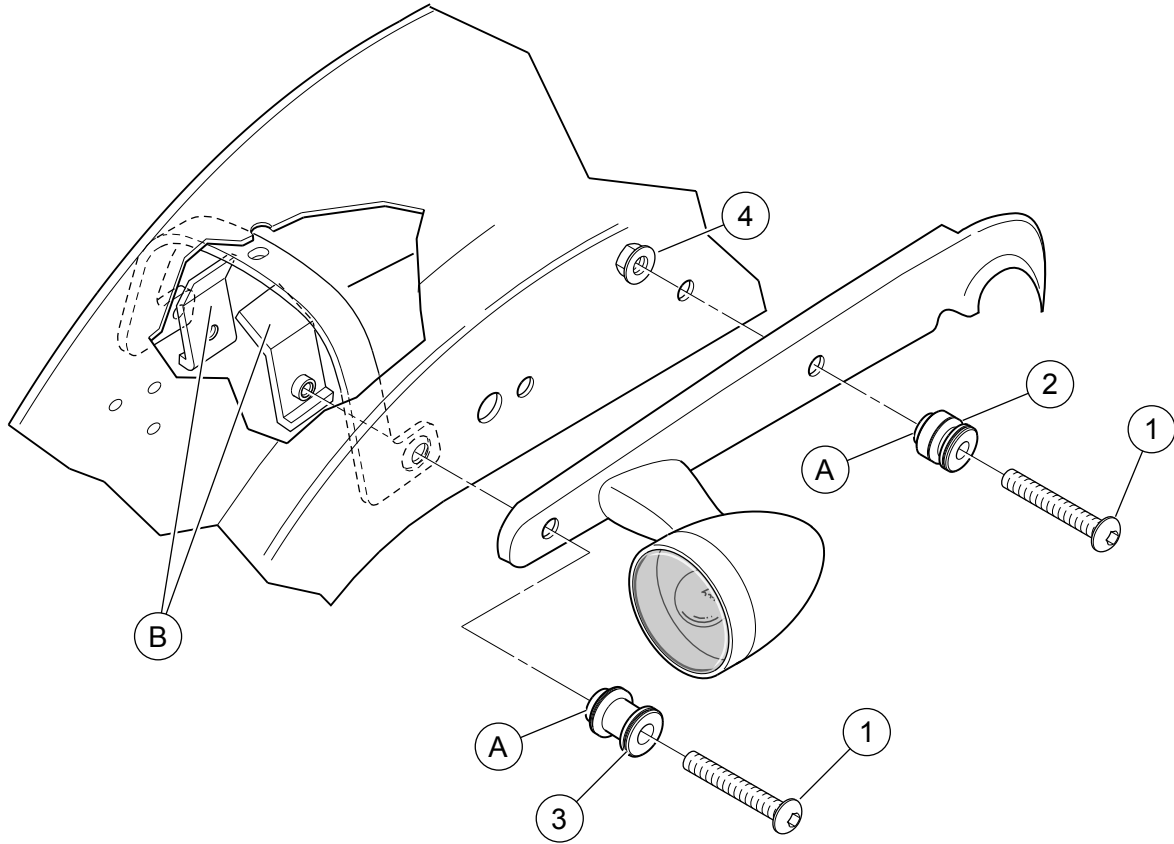

Figure 2. Service Parts: Docking Hardware
See Figure 2 and Table 1.
2. Remove the rear screw (2) and clip nut (4) from the rear-fender support cover. Discard the screw, but retain the clip nut.
3. See Figure 2. Obtain a front docking point (2), screw (1) and locknut (4) from the kit. Note the small-diameter collar on one end of the docking point. Place the docking point onto the screw threads with the collar end farthest from the screw head. Coat the screw threads with a few drops of Loctite® 243 (Blue). Insert the screw into the forward rear-fender support hole, fitting the collar on the docking point toward the hole. Thread a locknut onto the screw threads from underneath the fender. Tighten the locknut to 20 N·m (15 ft-lbs).
4. Obtain a rear docking point (3) and screw (1) from the kit, and the clip nut removed earlier. Note the small-diameter collar on one end of the docking point. Place the docking point onto the screw threads with the collar end farthest from the screw head. Coat the screw threads with a few drops of Loctite 243 (Blue). Insert the screw into the rearmost rear-fender support hole, fitting the collar on the docking point toward the hole. Install the clip nut onto the screw threads from underneath the fender. Tighten the screw to 20 N·m (15 ft-lbs).